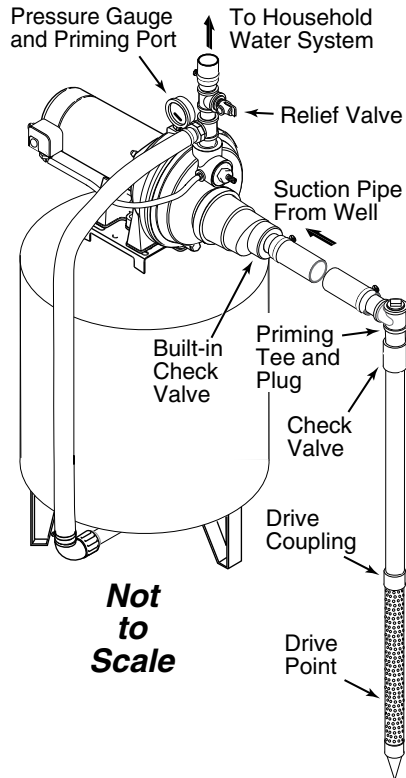

Figure 4 – Driven Point Installation
## New Shallow Well, Driven Point Installation (Figure 4)
4. Use the fewest possible fittings (especially elbows) when connecting the pipe from the well point to the pump suction port. The suction pipe should be at least as large as the suction port on the pump (include a check valve – See Figure 4). Support the pipe so that there are no dips or sags in the pipe, so it doesn’t strain the pump body, and so that it slopes slightly upward from the well to the pump (high spots can cause air pockets which can air lock the pump). Seal the suction pipe joints with PTFE pipe thread sealant tape approved for use on PVC. Joints must be air- and water-tight. If the suction pipe can suck air, the pump cannot pull water from the well. If one well point does not supply enough water, consider connecting two or three well points to one suction pipe.